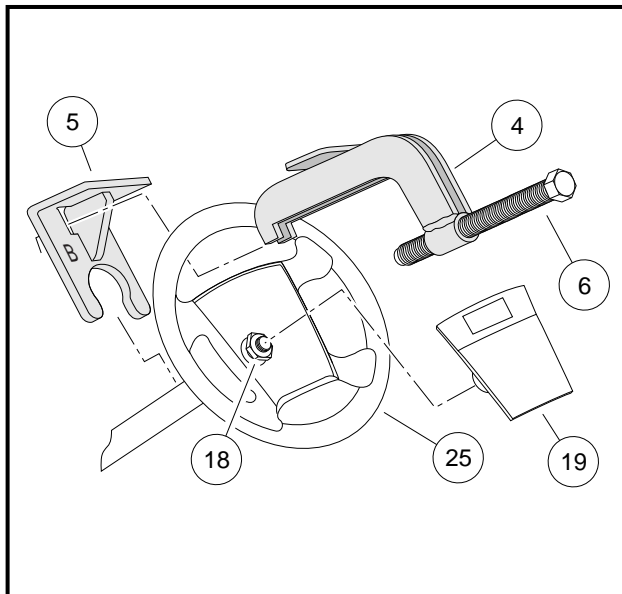

Figure 7-2 Steering Wheel Puller
- 5.1. Place the puller anvil (4) through the top opening of the steering wheel (**Figure 7-2, Page 7-3**).
- 5.2. Insert the anvil feet through the two slots in the base plate (marked "B") (5) as shown (**Figure 7-2, Page 7-3**).